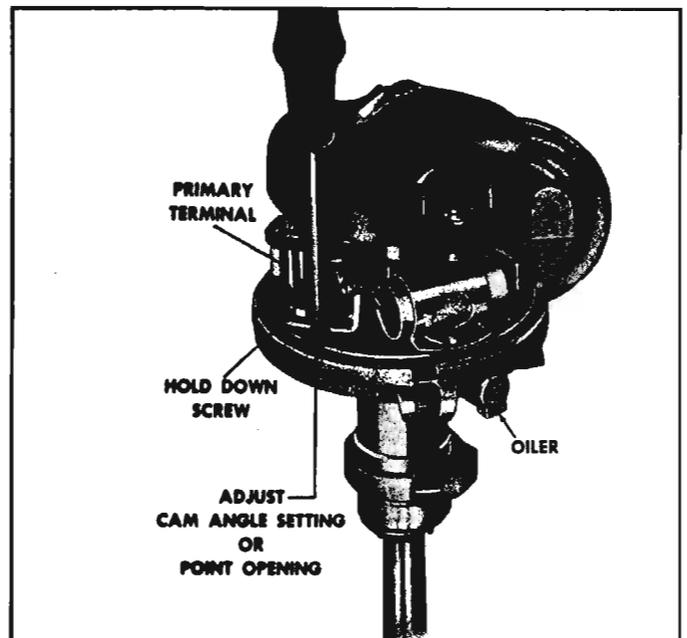

Fig. 8-55—Point Adjustment
3. Place screwdriver on hole provided in plate and point support and move point support (fig. 8-55) to obtain a .019" opening for new points and a .016" opening for used points.